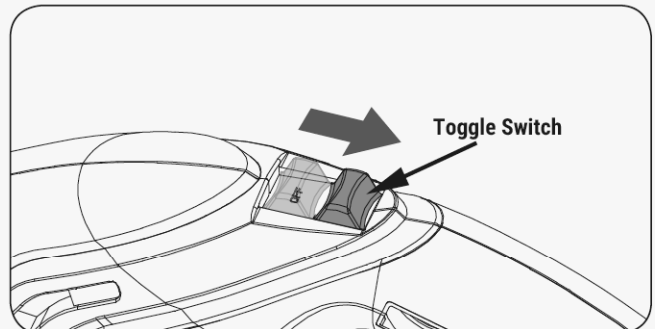

Figure 28
6. Move the toggle switch backward to turn off the blower. (See **Figure 28**)